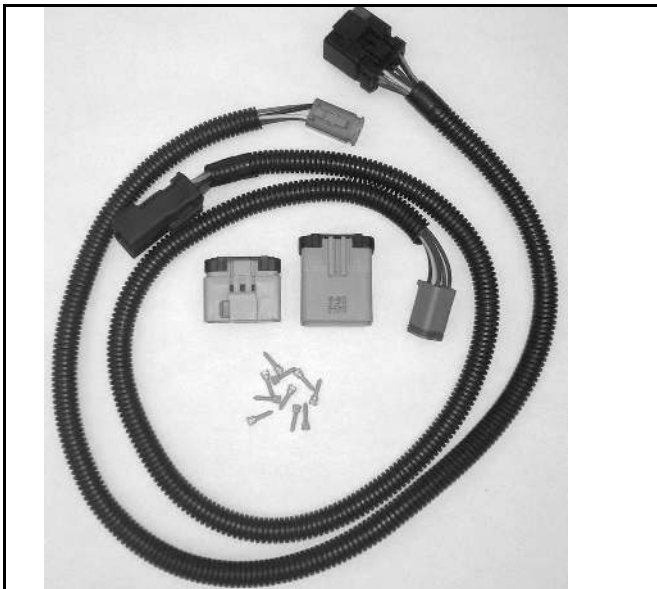

Figure 9
10. Locate the plow light harnesses, Male/Female Gray 14 pin connectors, and 10 cavity plugs. (See Figure 9.)